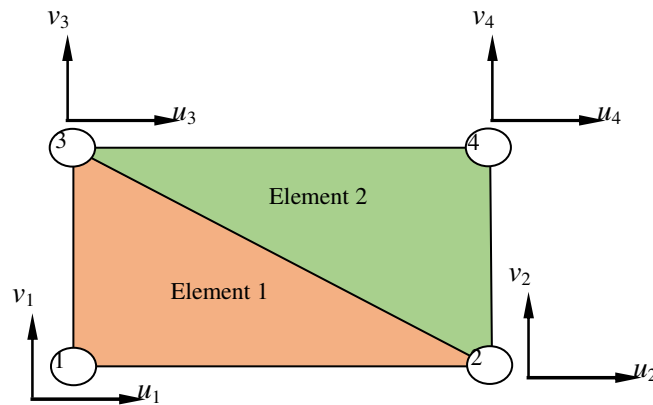

Fig. 4
6. A rectangular plate is discretized by two triangular elements as shown in **Fig. 4**. Each node having two degrees of freedom. The elemental level governing equations are given below in matrix form. Calculate the assembled stiffness matrix, load vector. Calculate the nodal values after applying the boundary conditions by elimination approach. The boundary conditions are given as: $u_1=2, v_1=5, v_3=6, u_4=0, v_4=0$.